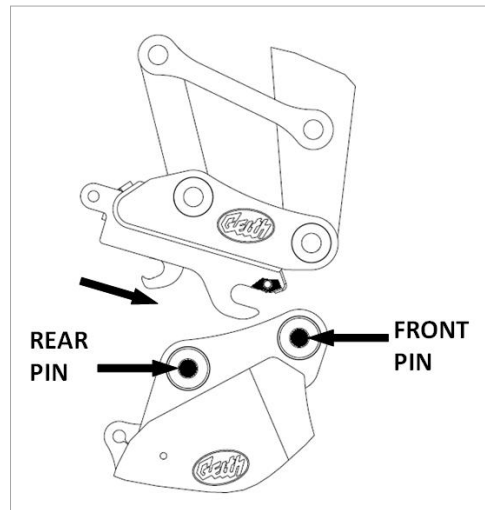

Fig. 25
4. Lower the attachment to the ground and release it from the Quick Hitch by crowding the Quick Coupler outwards away from attachment pins. See fig. 25.